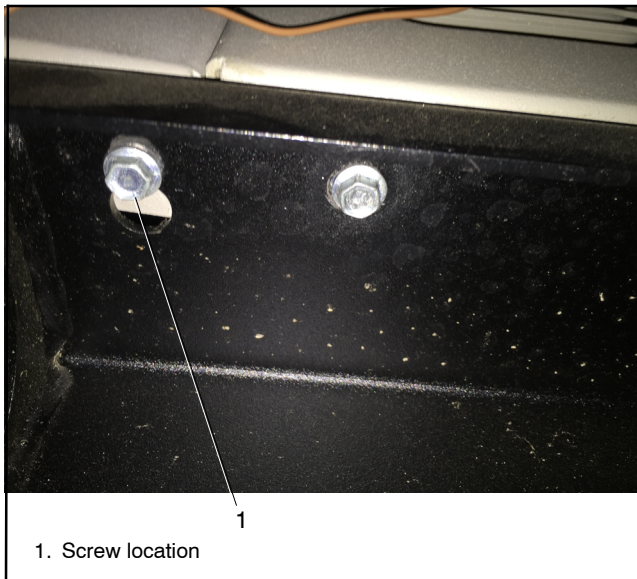

**Figure 4** Location of right panel inner screws
3. Remove the two inside right panel screws. See Figure 4 and Figure 5.